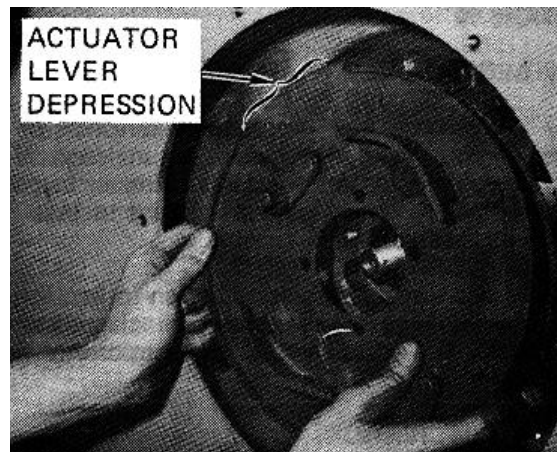

FIGURE 10-2.
a. Install backing plate with actuator lever depression in position shown (see figure 10-2).